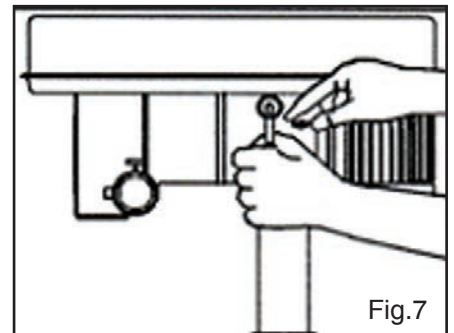

Fig.7
- Fix set screws into the right side of the head to lock the head into position. Tighten the screws with the Allen wrench. Fig. 7.